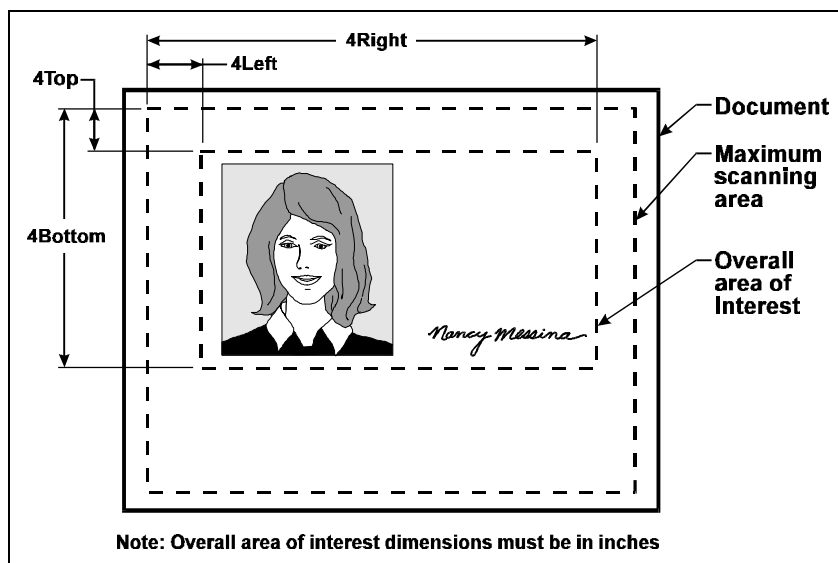

Figure 2-50. Overall Area of Interest Variables in ESMS.INI
- d. Edit the 4Left, 4Top, 4Right and 4Bottom values to define the overall area of interest (enclosing all the individual areas of interest, as shown in Figure 2-50) relative to the maximum scanning area.